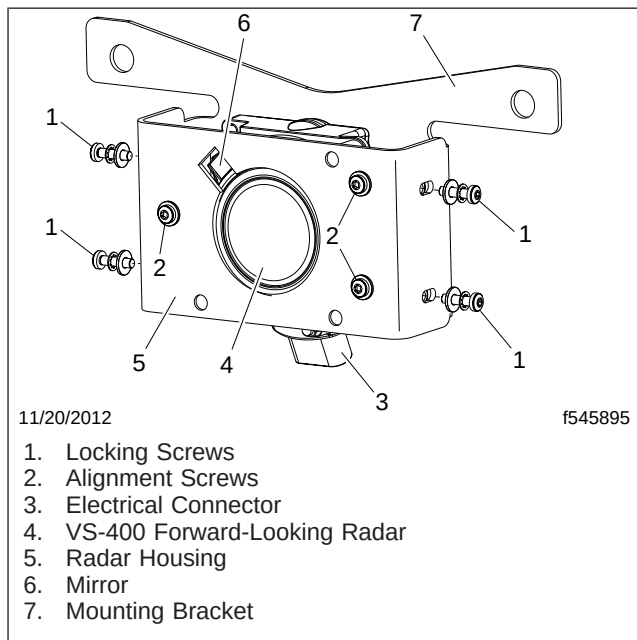

Fig. 1, VS-400 Module, Mounted on the Forward Frame Rail
3. Remove the four locking screws on the side of the radar housing. See **Fig. 1**, ref 1.
10. Position the module on the forward frame rail, then install the four locking screws. Do not torque the screws until the radar is calibrated. See **Fig. 1**, ref 1.